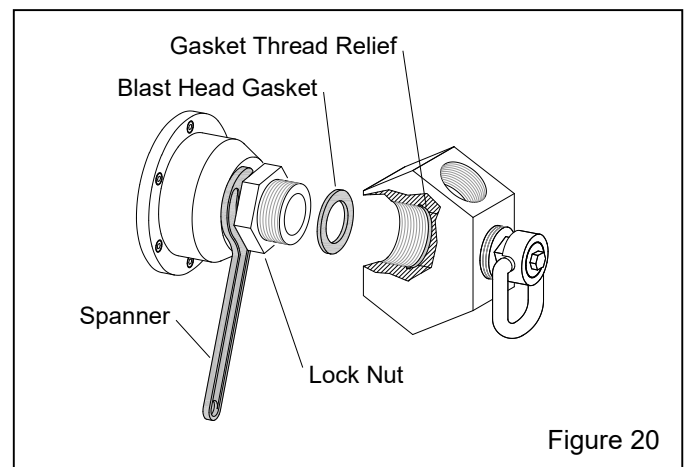

Figure 20
**7.3.1.12** Refer to Figure 20 and install a new blast head gasket into the head's axle port. Make sure the gasket is fully seated within the thread-relief and against the shoulder in the head.
**7.3.1.13** Insert the spanner into the recess on the axle, as shown in Figure 20 and hand-tighten the lock nut against the spanner. Use the spanner to hold the axle while turning the blast head clockwise to install. Tighten the head enough to compress the gasket and create an airtight seal.